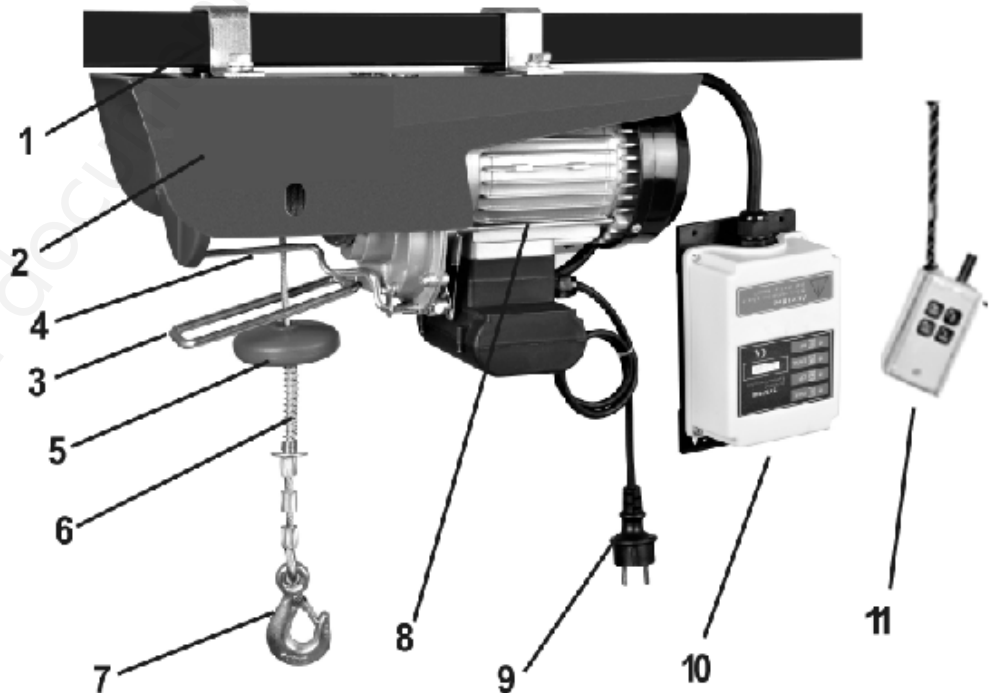

Fig. 1
2. The cable winch is operated using the operating panel (fig. 1, item 10). When operating the upper position of the switch, the load is hoisted up. When operating the lower position, the load is lowered. Never switch directly from hoisting to lowering or vice versa. Always stop the cable winch prior to changing directions.
3. Operate the emergency-off switch (fig. 1, item 9) to immediately stop the cable winch in case of an emergency and to secure against restart. To reset the device to operational status, first turn the emergency-off switch clockwise, which will unlock the red key. The cable winch is now operational.